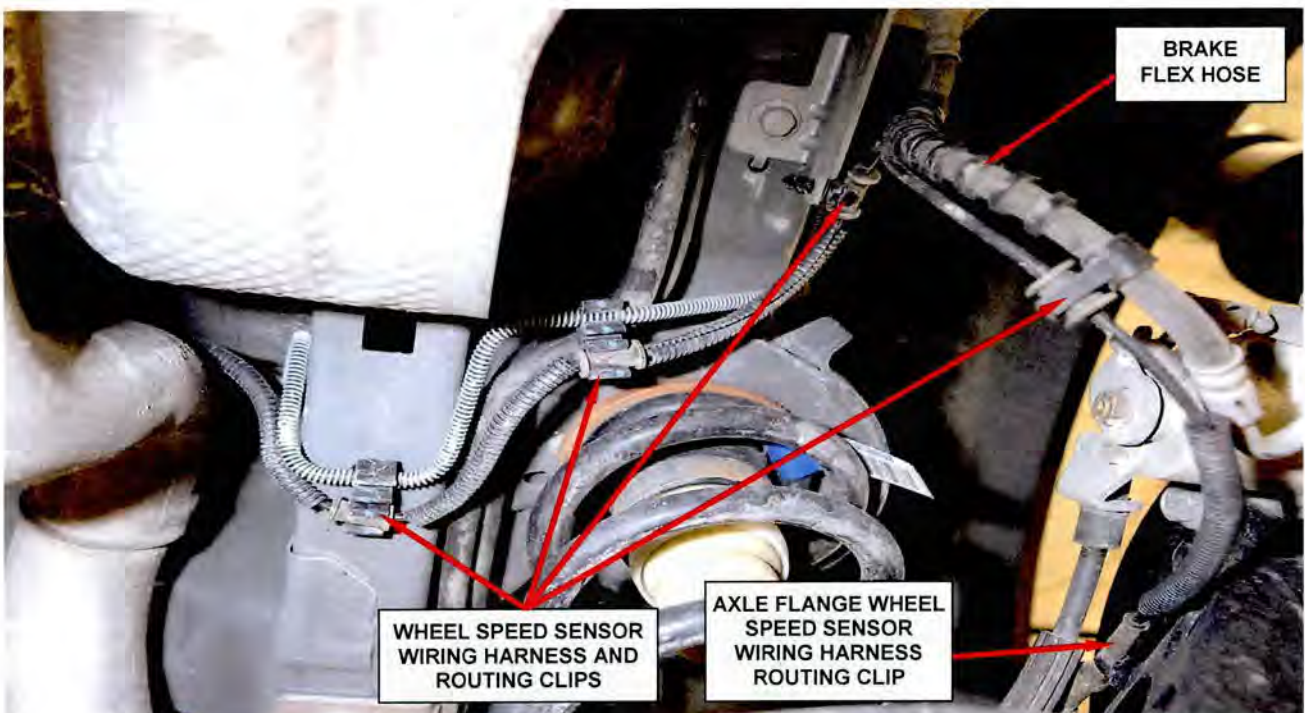

Figure 3 – Wheel Speed Sensor Wiring Harness Routing Clips
4. Remove the wheel speed sensor wiring harness from the routing clips along the underbody of the vehicle (Figure 3).
5. Remove the wheel speed sensor wiring harness from the routing clips along the brake flex hose (Figure 3).
6. Remove the wheel speed sensor wiring harness routing clip from the backside of the rear axle flange (Figure 3).
21. Install the wheel speed sensor wiring harness routing clip into the hole in the backside of the rear axle flange (Figure 3).
22. Install the wheel speed sensor wiring harness into the routing clips along the brake flex hose (Figure 3).
23. Install the wheel speed sensor wiring harness into the routing clips along the underbody of the vehicle (Figure 3).